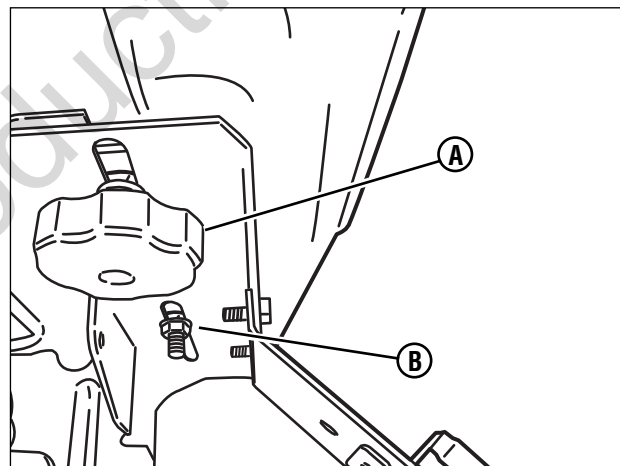

Figure 3: Operator seat adjustment
1. With the engine stopped, loosen the two adjusting knobs (**A, Figure 3**) and move the seat to the desired position. After adjustment, tighten the knobs securely.
4. Adjust the seat (**A, Figure 3**) as needed to the most comfortable position. Refer to the Section entitled "OPERATOR'S SEAT ADJUSTMENT".